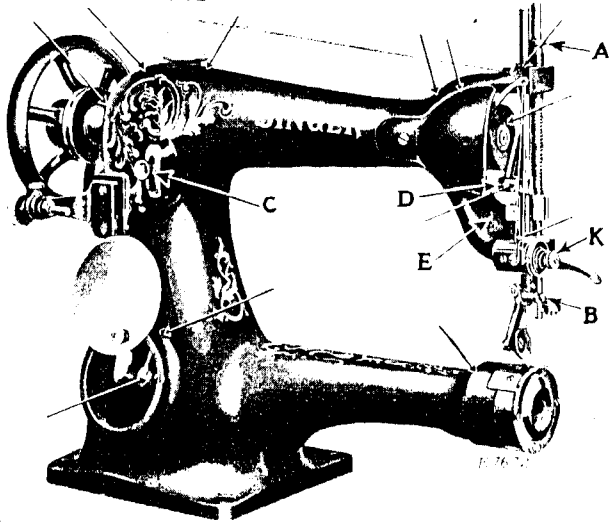

FIG. 2. OILING POINTS AT THE FRONT OF THE MACHINE
Oil should be applied to all oil holes marked "Oil" and to all oiling places indicated by arrows in Fig. 2.
Turn the balance wheel over from you until the needle bar is at its highest point, loosen the screw (B, Fig. 2) in the needle clamp at the lower end of the needle bar and put the needle up into the clamp as far as it will go, with the long groove of the needle toward the left or the upright part of the arm, then tighten the screw (B).
The tension on the upper thread is regulated by the thumb nut (K, Fig. 2) at the right of the tension discs on the side of the machine head. To increase the tension, turn the thumb nut over from you. To decrease the tension, turn the thumb nut over toward you.
The length of stitch is regulated by the thumb screw (C, Fig. 2) in the slot in the front of the arm at the left. To lengthen the stitch, loosen the thumb screw (C) and move it upward. To shorten the stitch, loosen the thumb screw and move it downward. When the desired length of stitch is obtained, tighten the thumb screw (C).
The pressure on the material is regulated by the thumb screw (A, Fig. 2). To increase the pressure, turn the thumb screw (A) downward. To decrease the pressure, turn the thumb screw upward. The pressure should only be heavy enough to enable the feed to move the work along evenly.
Turn the balance wheel over until the needle has reached its lowest point and has risen until the point of the shuttle is at the centre of the needle. The eye of the needle should then be about $\frac{1}{16}$ inch below the point of the shuttle. If the needle bar is not set at the correct height, insert a screwdriver in the hole (E, Fig. 2) and loosen the screw (D, Fig. 2) in the needle bar clamp, then move the needle bar upward or downward as required. After the needle bar is set at the correct height, securely tighten the clamp screw (D).